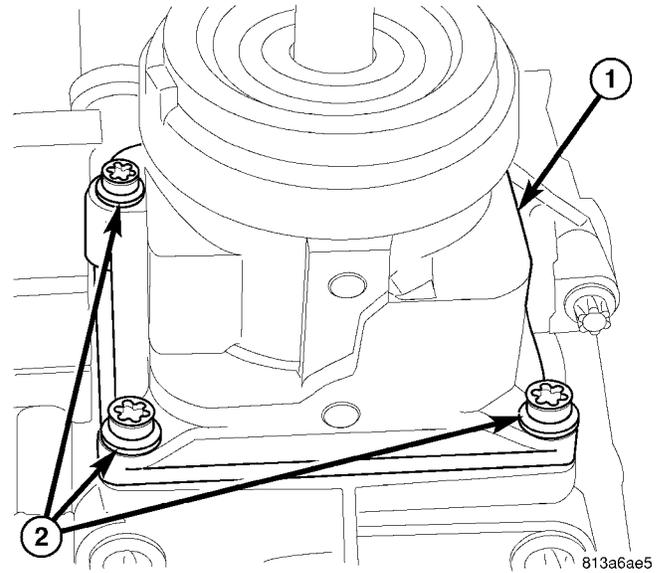

Fig. 116 SHIFT TOWER
(20) Apply MOPAR® Gasket Maker to shift tower.
(21) Install shift tower (1) (Fig. 116) and tighten bolts (2) to 14 N·m (10 ft. lbs.).